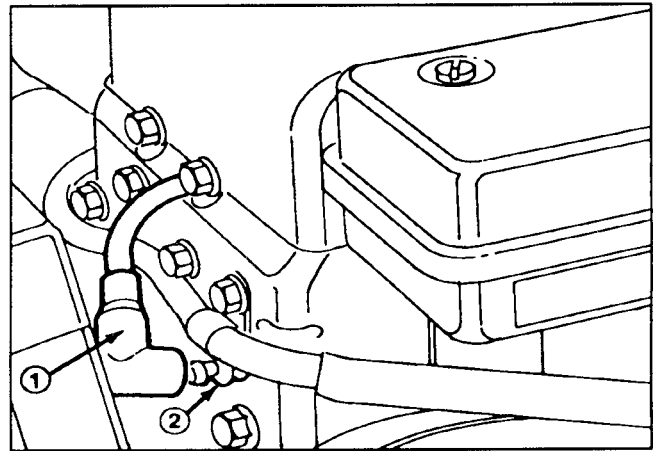

Figure 11
To prevent accidental engine starting while performing maintenance, shut the engine off and remove the key from the Ignition switch. Also, pull the wire off the spark plug (Fig. 11). Make sure the wire does not contact the plug accidentally.
1. Remove the wire from the spark plug (Fig. 11).